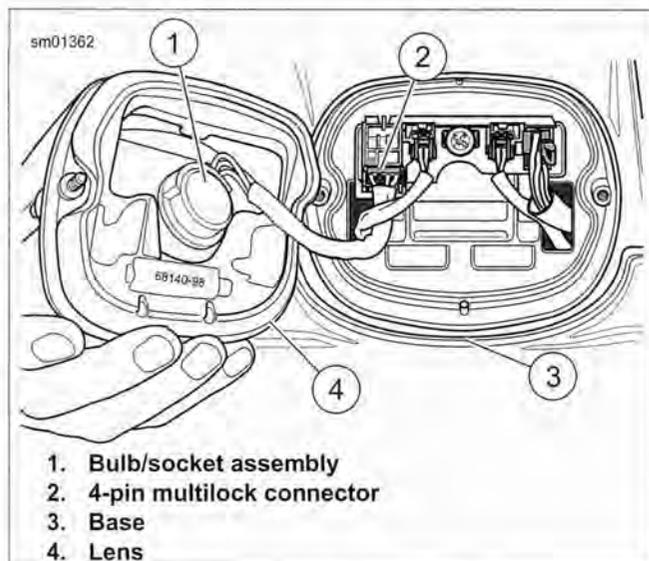

Figure 6-54. Tail Lamp
2. See Figure 6-54. Remove two screws and lens (4) from base (3).
4. Turn socket assembly (1) one-quarter turn counterclockwise to release assembly from lens. Remove (pull) assembly from lens. Remove bulb from socket.